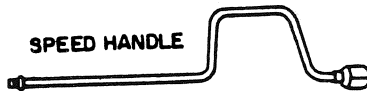

Figure 10.33. Speed Handle
1. Speed handles sometimes called "speeders" or "spinners" are convenient for many jobs. The speed handle is worked like a brace which the woodworker uses with a bit to bore holes. A speed wrench will help you get nuts off in a hurry after they are first broken loose. (Figure 10.33)